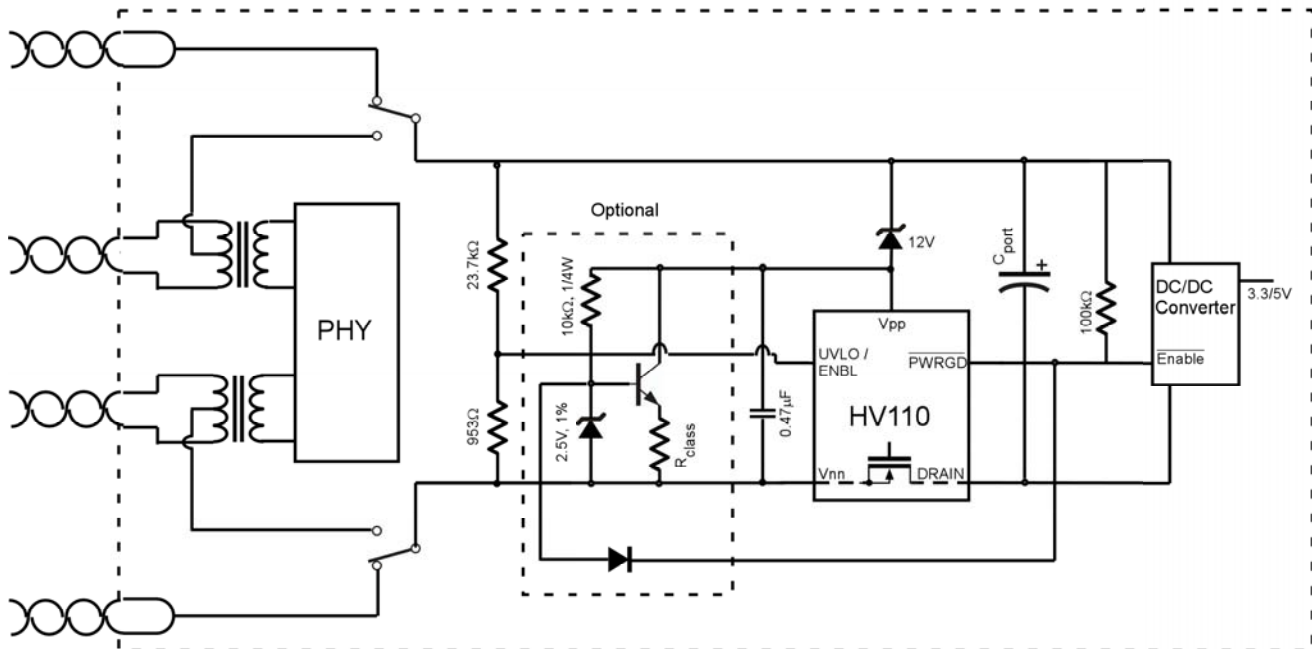

Figure 9. Classification Circuit with HV110
power than shown for the given Class. Note that Class 0 default will work for all devices & Classification is only needed in the rare instance when a multi-port switch or router wants to rate the system supply lower than the combined Class 0 port output; a situation which will reduce it's potential classification base. In fact most of the PD devices, like Wireless Access Points, in the market today are Class 0 devices and hence do not require any classification methods. HV110 therefore does not force the use of resistors and wasted silicon area to implement a Classification current source. HV110, however, can be made to be compatible with classification by utilizing low cost circuitry as shown in Figure 9.
- ❑ Classification can be easily implemented, as shown in Figure 9.
Figure 9 above shows the schematic for a typical classification scheme used with HV110. The PSE identifies the Class of the PD, by measuring the current flowing into  $R_{class}$  during the Classification Period.